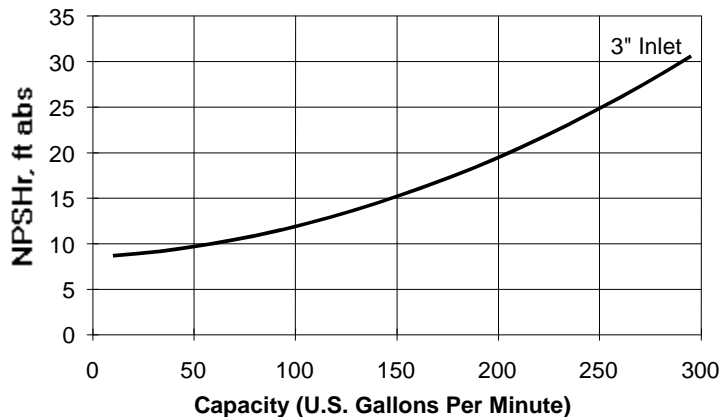

Figure 15-3
- 6) Refer to the KP Performance Curve manual on NPSH and find the proper speed & suction pipe diameter curve as shown in Figure 15-3. For this example 2, the pump should have no trouble pumping 160 gpm when the tank car is full however, when